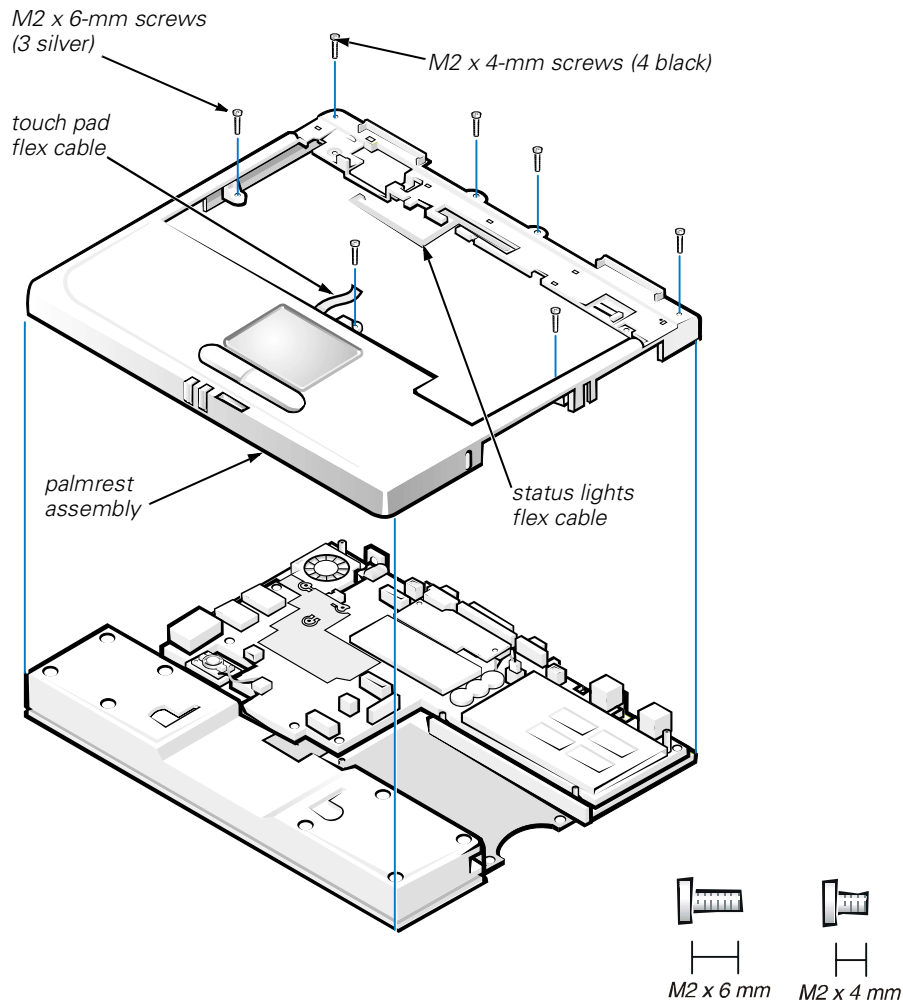

Figure 15. Removing the Palmrest Assembly Top Screws
- Remove the four black M2 x 4-mm screws across the top of the computer (see Figure 15).
- Remove the three silver M2 x 6-mm screws in the keyboard-assembly area that secure the middle of the palmrest assembly to the bottom case (see Figure 15).
2. Reinstall the three silver M2 x 6-mm screws in the keyboard-assembly area that secure the middle of the palmrest assembly to the bottom-case assembly (see Figure 15).
3. Reinstall the four black M2 x 4-mm screws that secure the top of the palmrest assembly to the bottom-case assembly (see Figure 15).